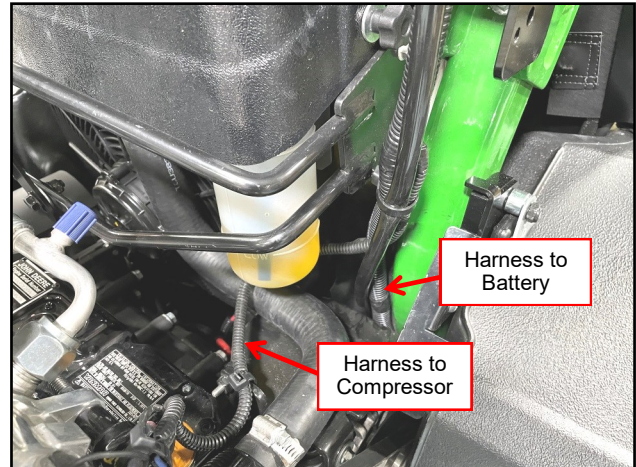

Fig. 2.28a (Routing AC Wire Harness)
2.28 Per Figures 2.28a and b, run compressor part of the AC wire harness (ring and push-on terminals) to the compressor. Remove 3/8" Lock Nut and install ground ring terminal. Re-install 3/8" Lock Nut and connect the push-on terminal to terminal found on the compressor. Use supplied Wire Ties as need.
2.29 Pass the AC Wire Harness between the Radiator and right R.O.P.S as shown in Figure 2.28a. Continue to run the harness down the inside of the right fender. Connecting the harness' 2-pin connector to the vehicle harness per Figure 2.29. Use supplied Wire Ties as needed.